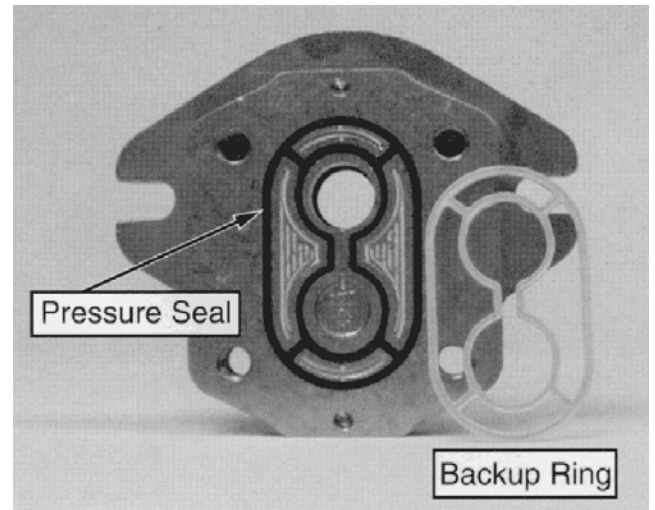

Figure 104
8. Carefully remove and discard O-rings, pressure seals and back-up rings (Fig. 104) from motor. Do not cause any damage to the machined grooves during the removal process.